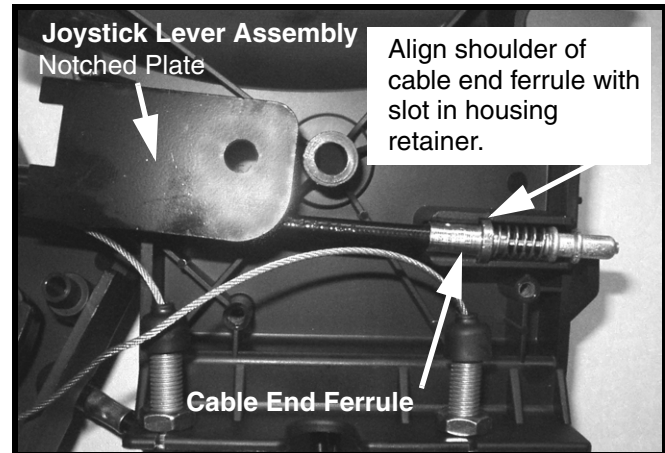

FIGURE 8
20. Refer to Figure 8. Position the new 4-Way Joystick Lever Assembly with its notched plate up as shown on the inside of the right housing half.
21. Position the cable end ferrule of the detent lock pin/spring assembly into the right half of the control housing's retaining slot and press in until it snaps firmly into the retaining slot. See Figure 8.